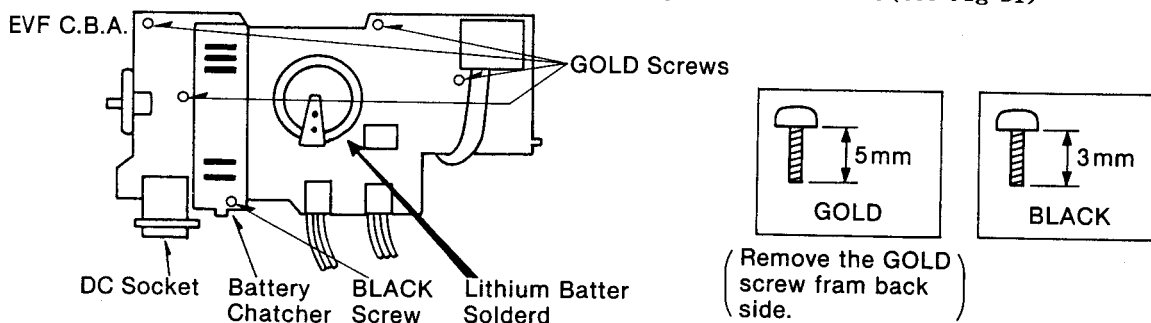

Fig. B1
3. Unsolder the Lithium battery "VL2020" and then replace the new one. (See Fig B1)